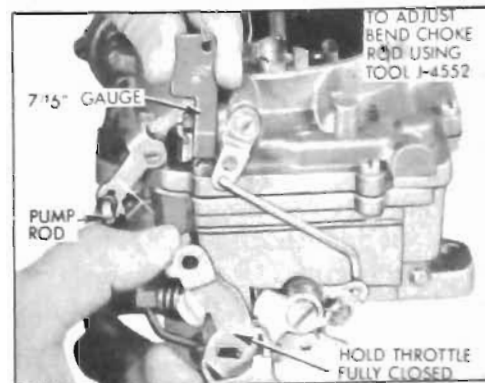

Figure 3-54—Pump Adjustment
3. Adjust Pump. Push fast idle cam aside and back out throttle stop screw until throttle valves seat in throttle bores. With pump rod in center hole, measure from air horn to top of plunger shaft with scale. Bend pump rod at lower angle as required to obtain 7/16" measurement using Tool J-4552. See Figure 3-54. Turn throttle stop screw in (from fully closed throttle position) 1/2 turn which should provide an initial idle adjustment.